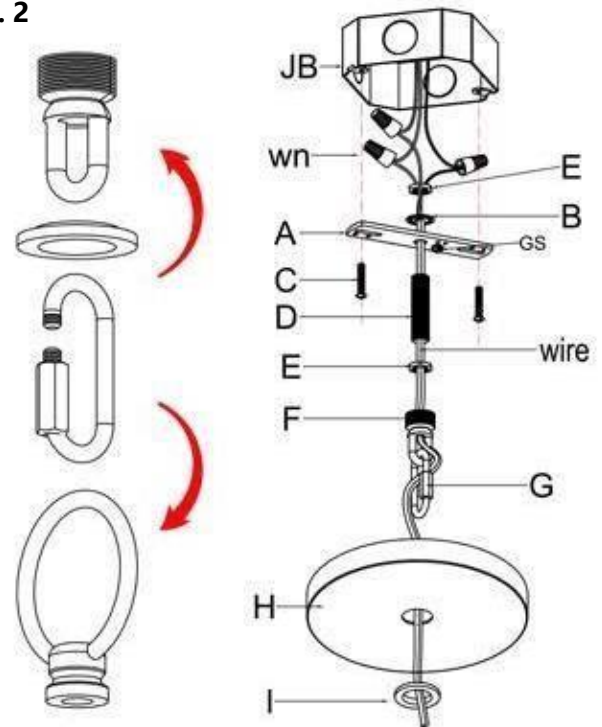

Fig. 3
CONNECTING THE WIRE (Fig. 3)
13. Connect the electrical wire as shown in Fig. 3, making sure that all the wire connectors are secured. If your junction box has a ground wire (green, or bare copper), connect fixture's ground wire to it. Otherwise connect fixture ground wire directly to the crossbar (A) using green screw provided.
14. Tuck wire connections neatly into junction box (JB).
15. Raise canopy (H) over ceiling loop (F) and secure with collar ring (I).